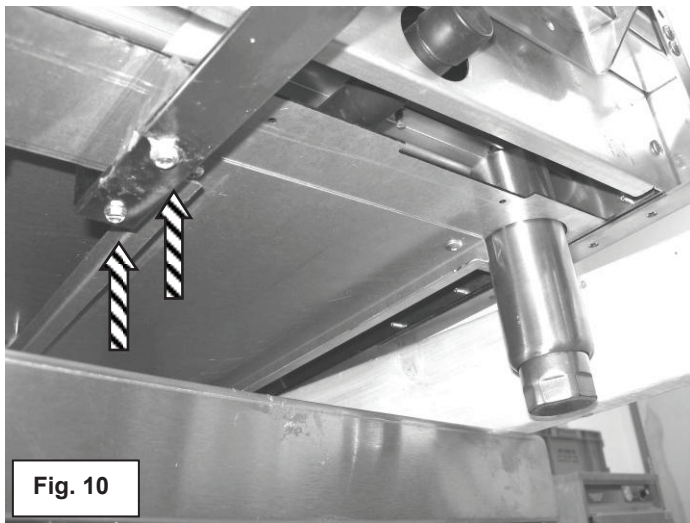

Fig. 10
11. Drill two holes with 5/32" bits through bottom support brackets and into the bottom of griddle chassis. Insert and tighten 10-24 x 2" screws as shown in Fig.10. Repeat as necessary for all bottom support brackets.